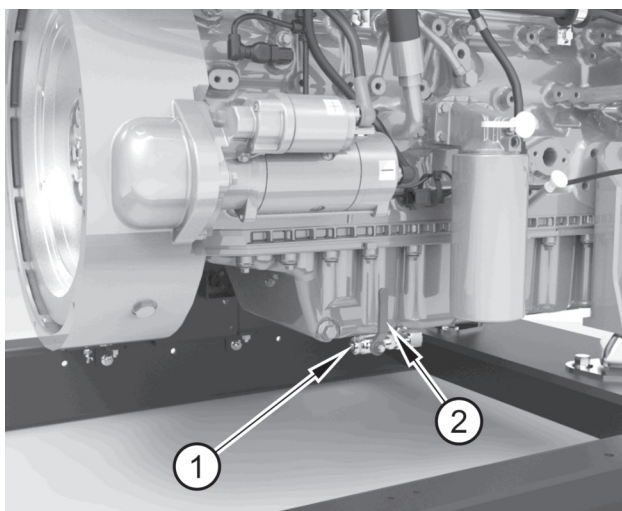

Figure 30
1. Remove the drain plug (figure 30 item 1).
3. Open the drain tap (item 2).